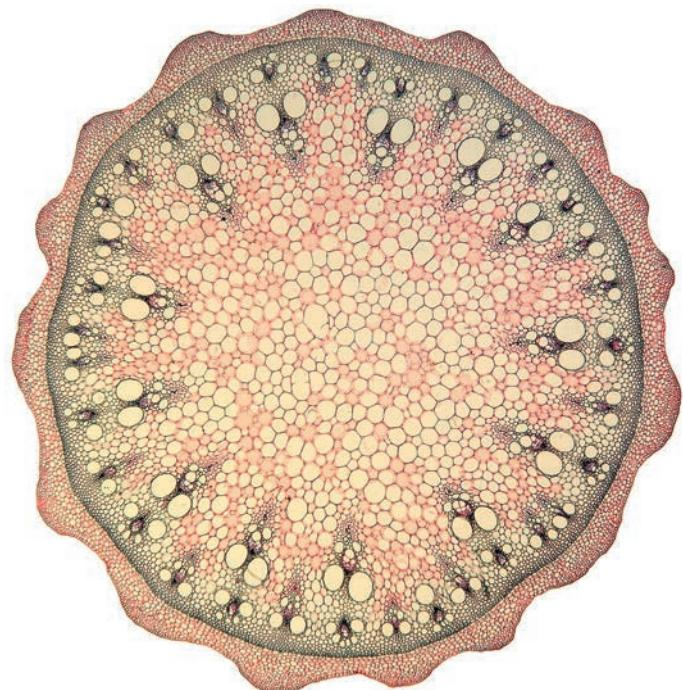

Fig. 2.2
(b) Fig. 2.2 is a photomicrograph of a stained transverse section through a stem of a different plant species.
Observe the stem on **L1** and the stem in Fig. 2.2.
Annotate Fig. 2.2 to describe **three** observable differences between the stem in Fig. 2.2 and the stem on **L1**:
- Next to each letter, describe how each feature on the stem in Fig. 2.2 differs from the stem on **L1**.